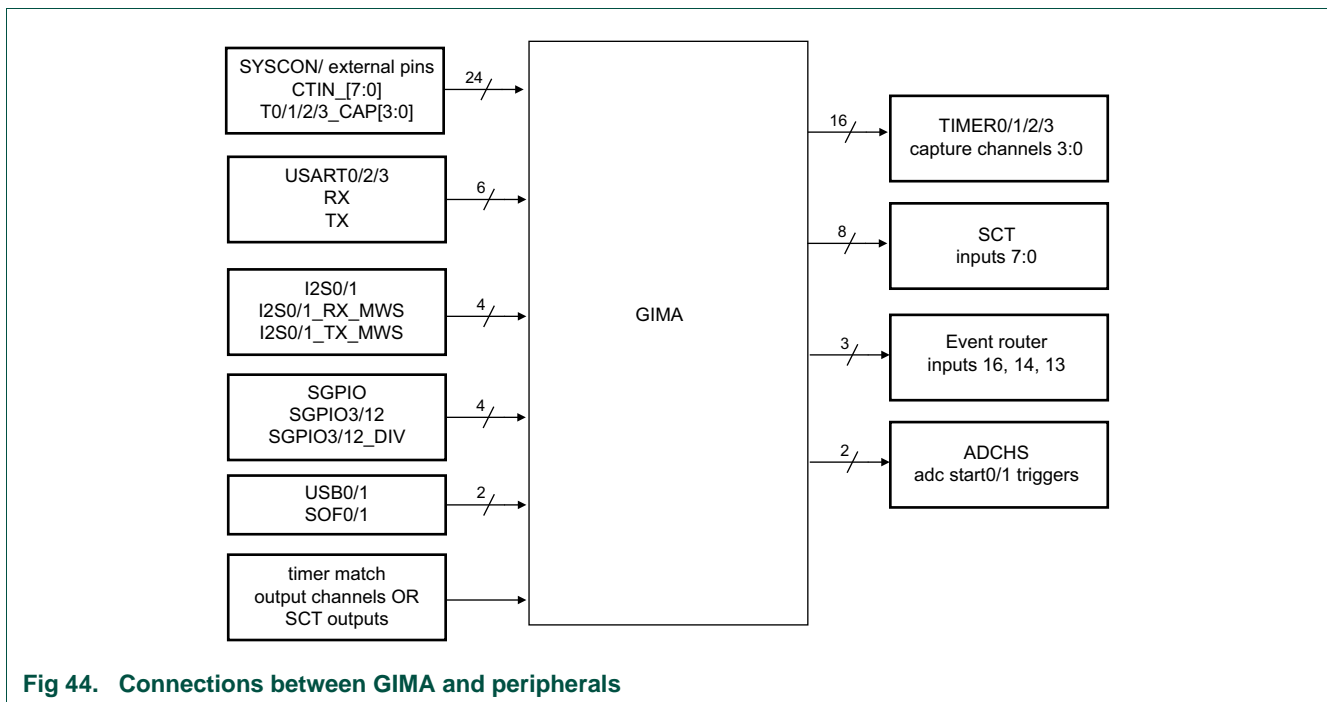

Fig 44. Connections between GIMA and peripherals
- The GIMA outputs are connected to the timer, SCT, ADC, and event router peripherals (see Figure 44).
Figure 44 shows the peripherals which are connected through the GIMA. For details, see Table 207.